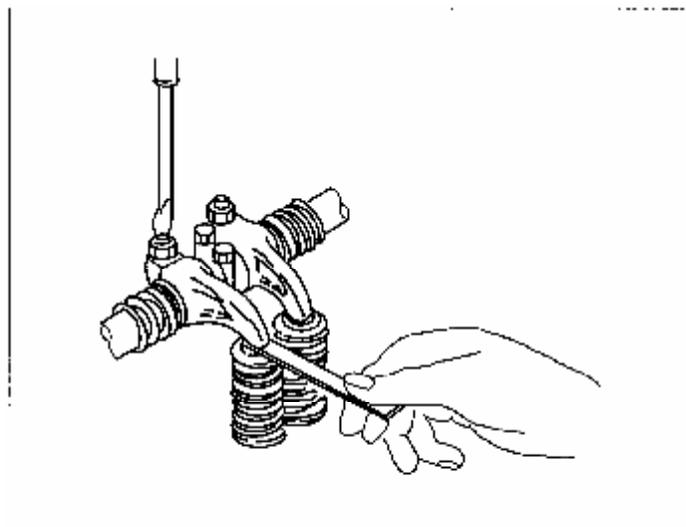

Figure 8-12 Check the Valve Clearance Using a feeler
(2) Insert a feeler into rocker arm and valve (see Figure 8-12), and loosen concerning rocker arm locking nut, turn adjust screw with a screwdriver till feeler becomes snug. Then retighten the nut